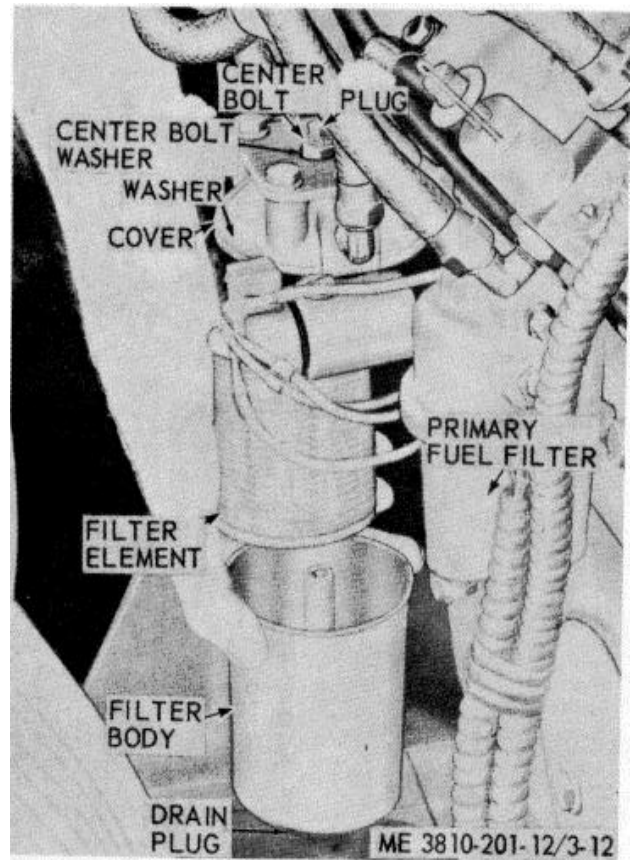

Figure 3-12. Secondary fuel filter service (model 687C-18-ES).
(1) Remove drain plug (fig. 3-12) and drain filter.
(2) Remove plug from center bolt; remove center bolt and center bolt washer, then remove filter body from cover.
(3) Remove disposable filter element and washer and discard.
(4) Clean all parts with an approved cleaning solvent and dry thoroughly. Be sure that all sludge and foreign matter has been removed from filter body.
(5) Install new filter element in body; install washer on cover, then install filter body in cover and secure with center bolt washer and center bolt.